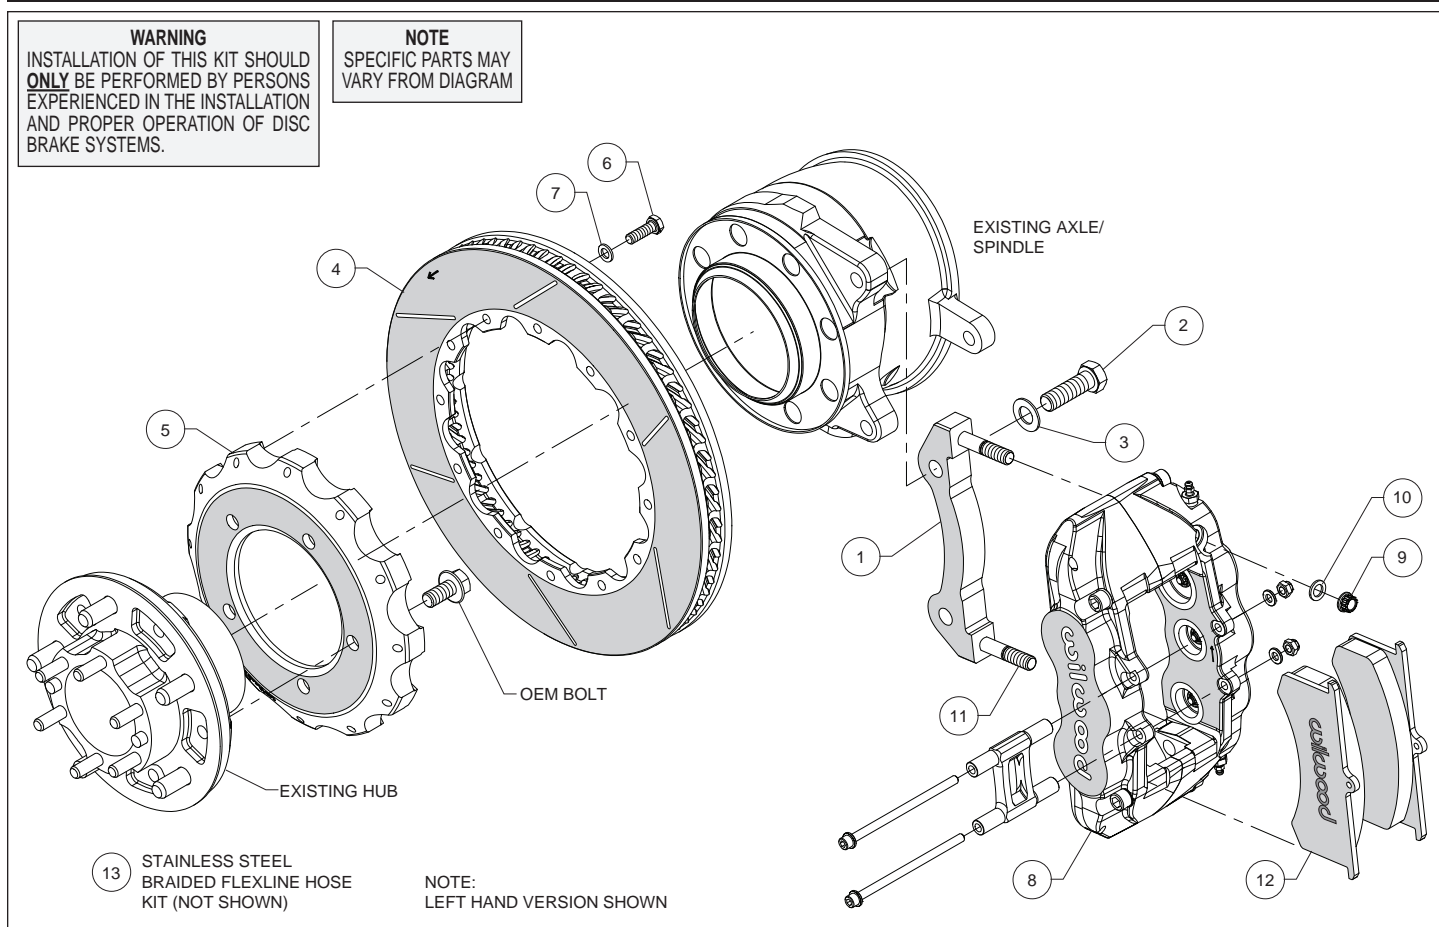

Figure 1. Typical Installation Configuration
Assembly Instructions (numbers in parenthesis refer to the parts list and Figure 1 on the preceding pages):
- The caliper mount bracket (1) should initially be installed with clean, dry threads on the mounting bolts. Orient the bracket as shown in Figure 1 and Photo 1, and install using bolts (2) and washers (3). Temporarily tighten the mounting bolts. **NOTE:** *The bracket must fit squarely against the mounting points on the upright.* Inspect for interference from casting irregularities, machining ridges, burrs, etc. Remove the bracket mounting bolts one at a time, apply red *Loctite*® 271 to the threads, and torque 100 ft-lb.
- Orient the hat (5) and the OEM hub as shown in Figure 1 and Photo 2. Attach hat to hub using saved OEM bolts and torque to OEM specifications. **NOTE:** *The hat must fit flush against the axle hub face or excessive rotor run out may result.*
- NOTE:** *This kit contains distinct right and left hand calipers that must be mounted in a specific direction, as described below.* Lubricate the caliper mounting studs (11) with lightweight oil. Mount the caliper (8) onto the bracket (1) using lock nuts (9) and washers (10), Figure 1. Ensure that the caliper is mounted so the largest pistons are at the rotor exit end of the caliper, in relation to the direction of rotor rotation. Temporarily tighten the lock nuts.
- Remove the caliper center bridge pad retainer bolts, nuts, and tubes from the caliper. Insert the brake pads (12) into the caliper, with the friction material facing the rotor, as shown in Photo 5. After everything is set, torque the caliper lock nuts (9) to 47 ft-lb. Secure the brake pads in place with the center bridge pad retainer tubes, bolts, and locknuts, Photo 6. The locknuts should be snug without play in the bolts or tubes. Be cautious not to over tighten.
- NOTE:** *OEM rubber brake hoses generally cannot be adapted to Wilwood calipers. The caliper inlet fitting is a 1/8-27 NPT.* Install Wilwood's stainless steel braided flexline hose kit (13), P/N 220-15714 included with this kit, Photo 7. **Carefully route hoses to prevent contact with moving suspension, brake or wheel components.** **NOTE:** *Wilwood hose kits are designed for use in many different vehicle applications and it is the installer's responsibility to properly route and ensure adequate clearance and retention for brake hose components.*